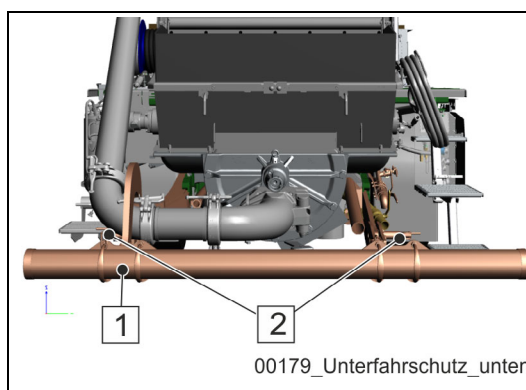
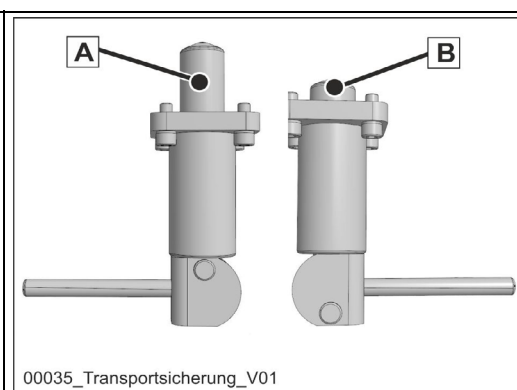

Fig. 162 Underride protection in transport position
Fig. 163 "A" = secured / "B" = released
The underride protection (1) is in the drive position (**Fig. 162**).
- Release both locks (2) (**Fig. 162**) on the underride protection (**Fig. 163**).